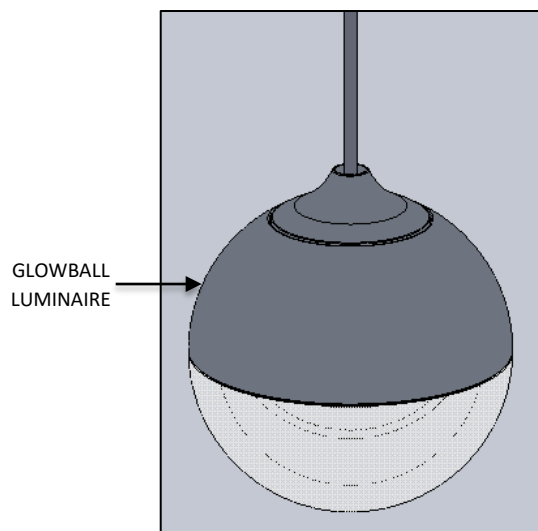

FIG.2 GLOWBALL LUMINAIRE
1. GLOWBALL LUMINAIRE with CORD attached. (Pre-assembled as shown in FIG. 2)